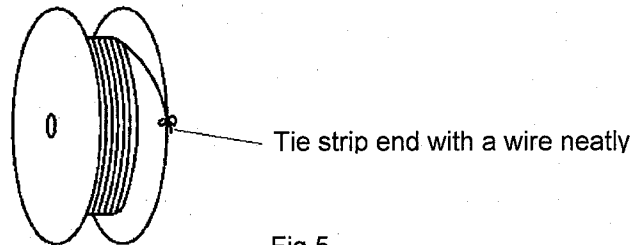

Fig.5
(3) Avoid storing the contact reel in a moist or dusty place. Stock the reel in a comparatively dry and clean place (5~35°C, 45~85%RH) away from direct sunlight.
(4) When removing the contact reel from the machine, fasten the end of contact strip onto the edge of the reel with use of proper string or wire. (See Fig.5)